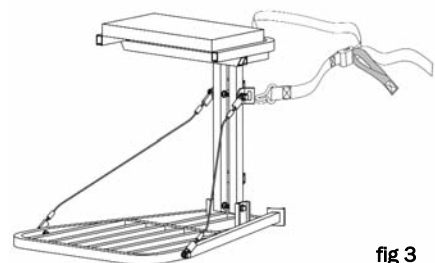

fig 3
Step 3: Unhook **TREE STRAP** from **TABS** and lower **STAND** to ground using a rope of appropriate length (fig 3).